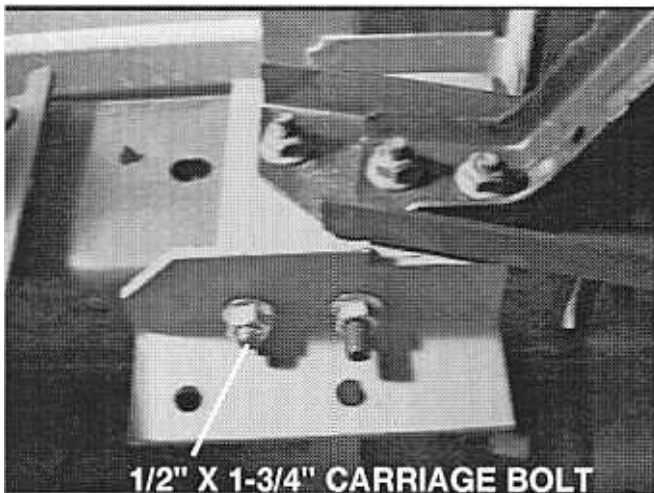

Figure 7
- Install one $1/2$ " x $1-3/4$ " carriage bolt from top down, backing plate and $1/2$ " locknut per side. See Figure 7.